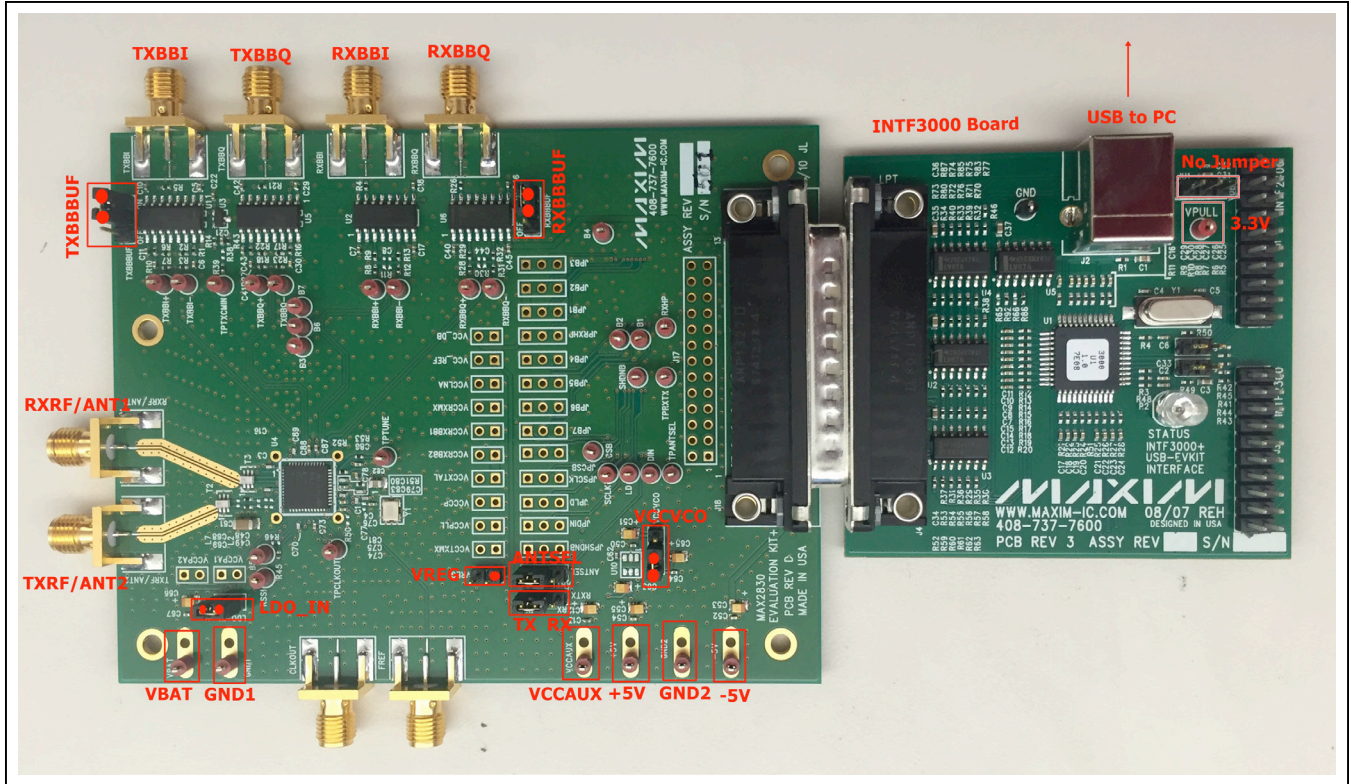

Figure 1. MAX2830 EV Kit Connections
This section provides step-by-step instructions for getting the EV kit up and running in all modes (see Figure 1 for EV kit connections):
- 4) Make sure the jumpers are installed in their default positions as shown in Figure 1.